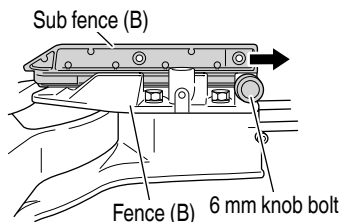

Fig. 20-b
This power tool is equipped with a sub fence (B). In the case of direct angle cutting and right bevel angle cutting, use the sub fence (B). Then, you can realize stable cutting of the material with a wide back face. When left angle cutting, loosen the 6 mm knob bolt, then slide the sub fence (B) outward, as shown in Fig. 20-b.